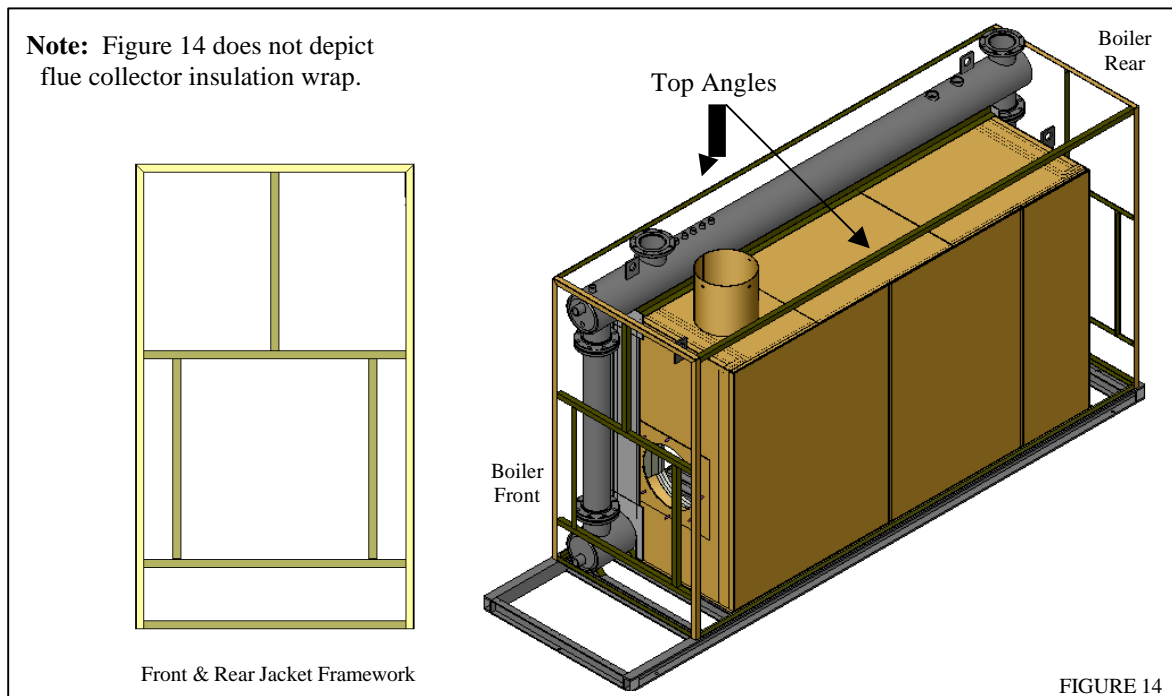

FIGURE 14
- 5.1 The front and rear jacket framework is installed next. You will notice that each joint in the framework has been given a letter/number. This is to help assist you in putting the proper piece of framework in the correct place. Position the front of the jacket frame on the boiler base first. Repeat this procedure for the rear. After front & rear framework is in place, tack weld top angles in place that are depicted in fig 14. **NOTE:** For ease of reassembly, match all letters/numbers and tack welds. Refer to drawing B21239 on page 27.